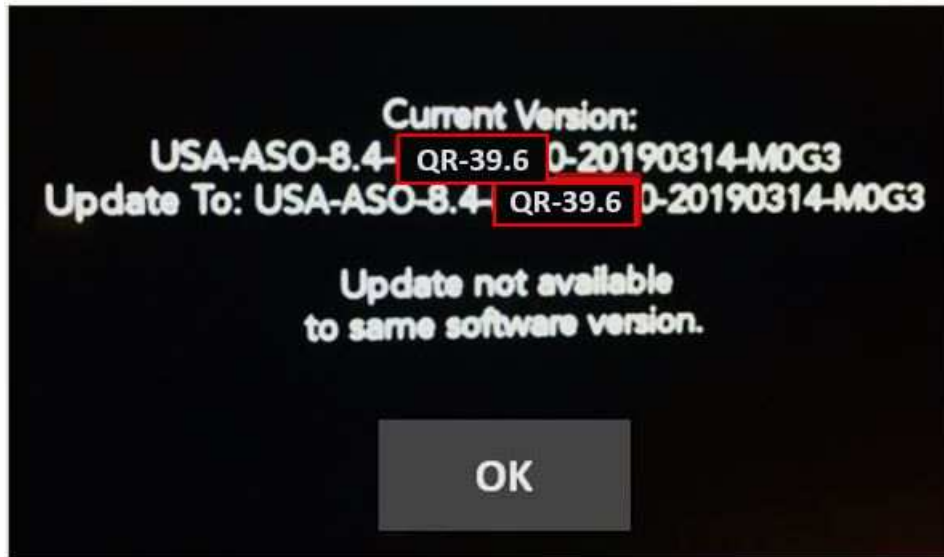

Fig. 10
16. After the update has completed, the radio will shut down. With the USB flash drive still inserted in the USB port, cycle the ignition back to the run position. If the radio software was updated correctly the “Current Version:” and the “Update To:” software levels in (Fig. 10) will display the identical software level. Press “OK” and remove the USB flash drive.